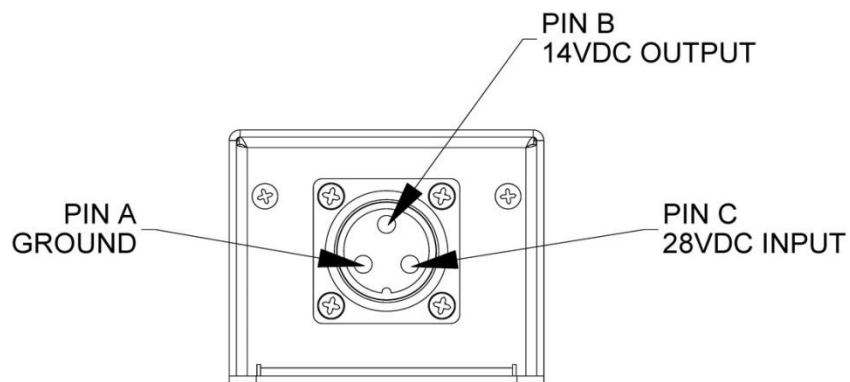

Figure 5: Pin Designation
- a. Refer to Figure 5 for Power Converter pin designation.